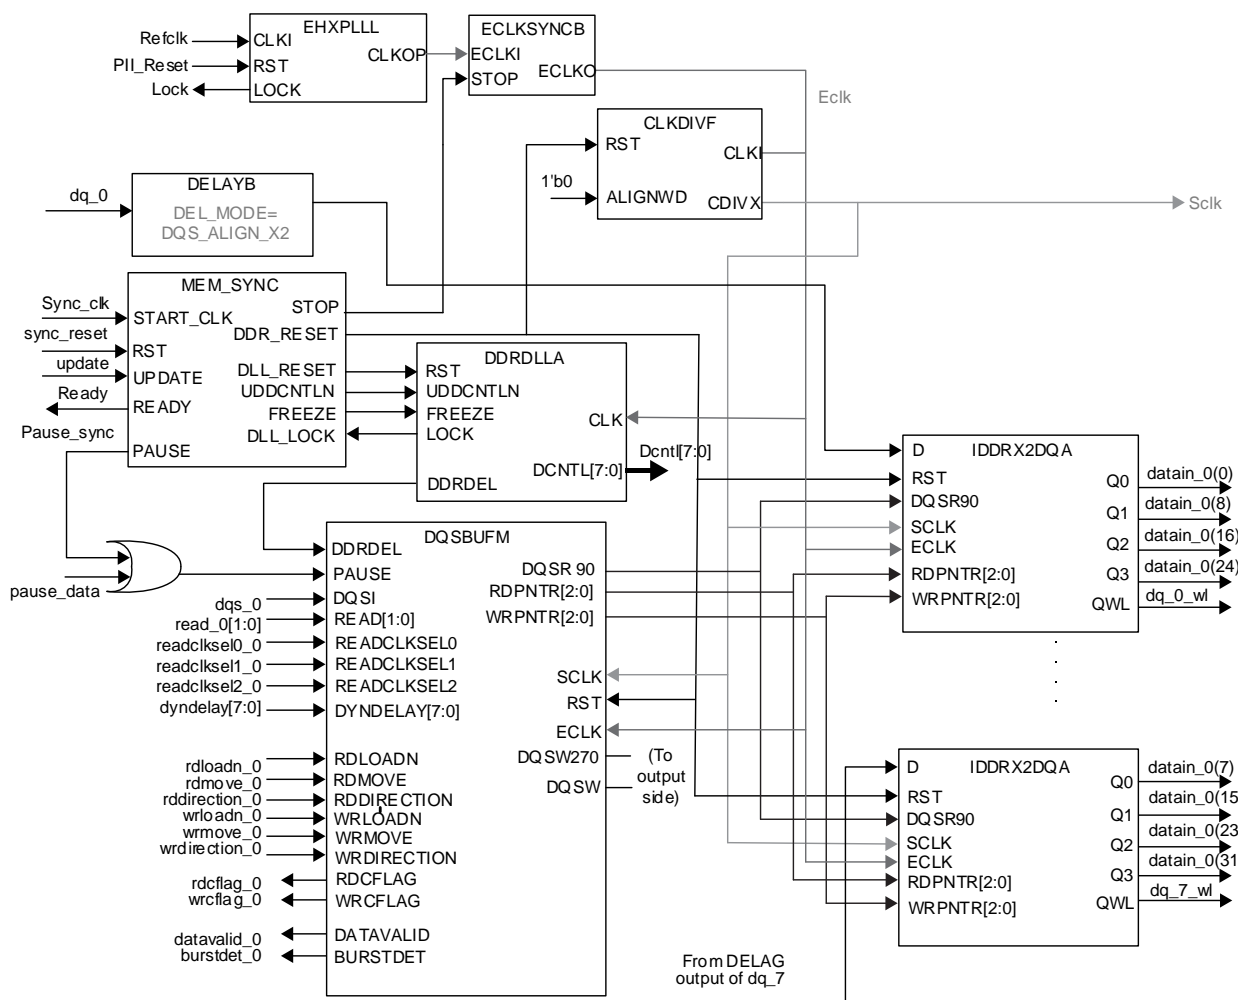

Figure 6.8. DDR3/DDR3L and LPDDR2/LPDDR3 Read Side Implementation
The read side implementation is shown in Figure 6.8.
- The DQSW270 and DQSW clocks are generated in the DQSBUFM module, as shown on the Read side Implementation figure (Figure 6.8).